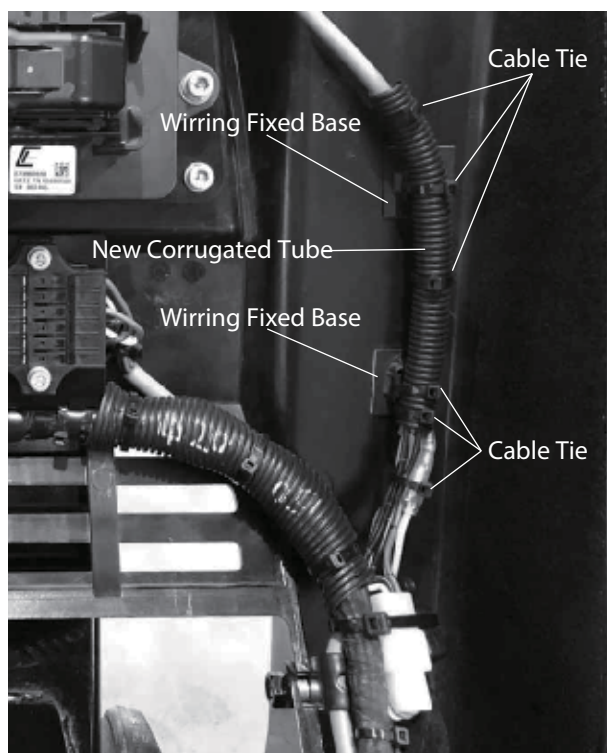

Figure 25. Conceal New Wiring Assembly
15. Conceal the new wiring assembly inside the new corrugated tube (P/N 959029800), and secure it with cable ties (P/N 506010070) and wiring fixed base. See Figure 25.